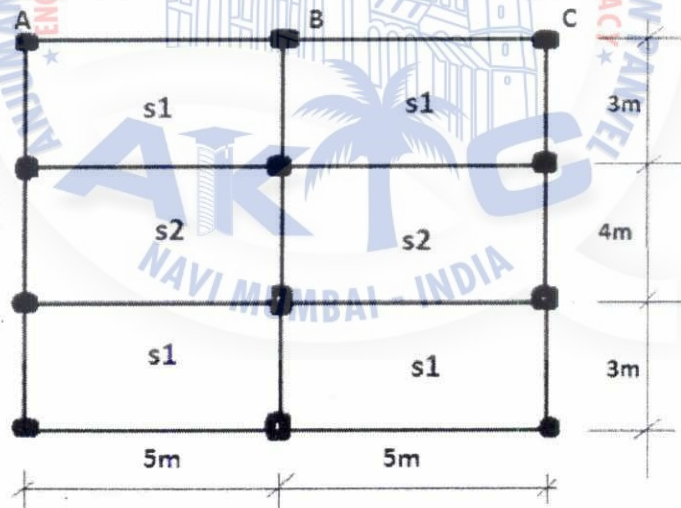

Figure 1
- Q 2 The framing plan of a residential building is shown in Figure 1. The design live load is 3 kN/m^2 and floor finish load is 1.5 kN/m^2 . All external walls are 230 mm thick and internal walls are 150 mm thick. Floor to floor height is 3.2 m. Grade of concrete is M20 and steel is Fe 415. All columns are 450mm x 450 mm in size. 20